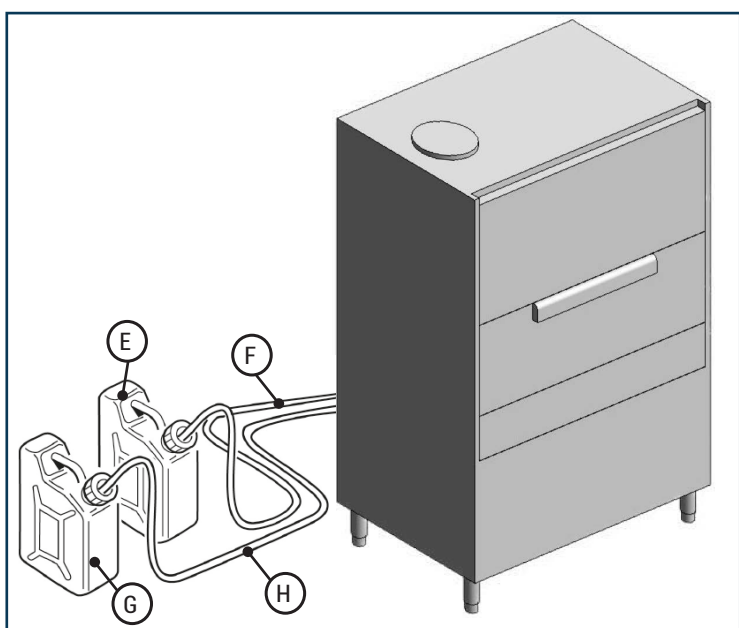

Fig. 9
- Insert the red feed tube "F" (Fig. 9) in the can "E" (Fig. 9).
- Insert the transparent/blue tube "H" (Fig. 9) into the can "G" (Fig. 9) containing the rinse aid;